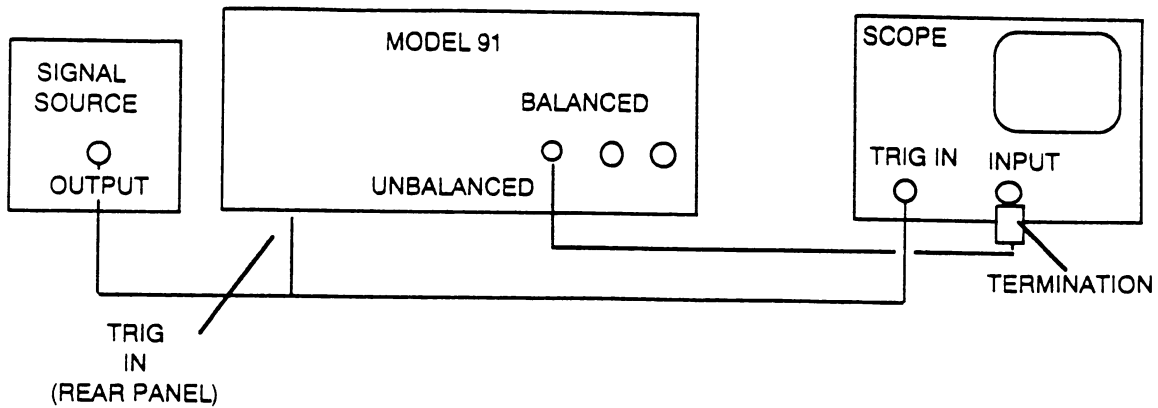

Figure 2-4. Trigger, Gate, and Burst Modes Check
Connect the Model 91 to the oscilloscope and signal source; see figure 2-4.
11. To select the External Trigger Source, press the "TRIG SETUP" key (24) until SOURCE INT (0) appears on the display. Rotate the Knob until SOURCE EXT (1) appears. Set the external signal source to 100 Hz, 1Vpp square wave. Connect the signal source to the rear panel TRIG IN (C) connector of the Model 91 as shown in figure 2-4. Sync the scope from the signal source